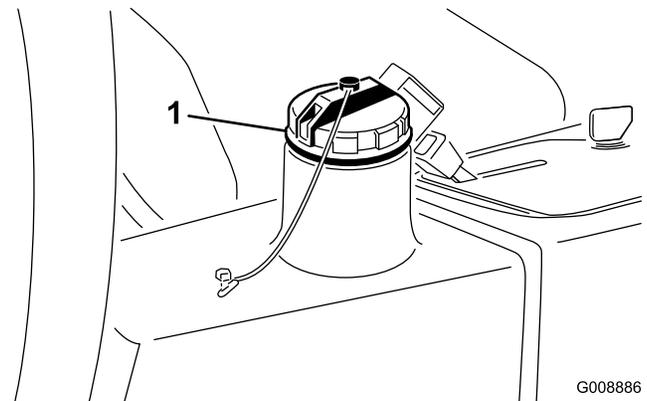

Figure 24
2. Clean the area around the filler neck and cap of the hydraulic tank (Figure 24). Remove the cap.